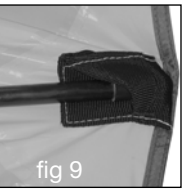

fig 9
7. **Attach the fly to the poles.** Lay out the fly with the inside side up, on ground at the front of the tent. Fit the fly poles into the pockets sewn to the hem. The poles run from side to side down the center of the fly forming an X. Secure the fly to the poles by wrapping the hook & loop fastener around the fly poles. See fig 9, 10 and 11.